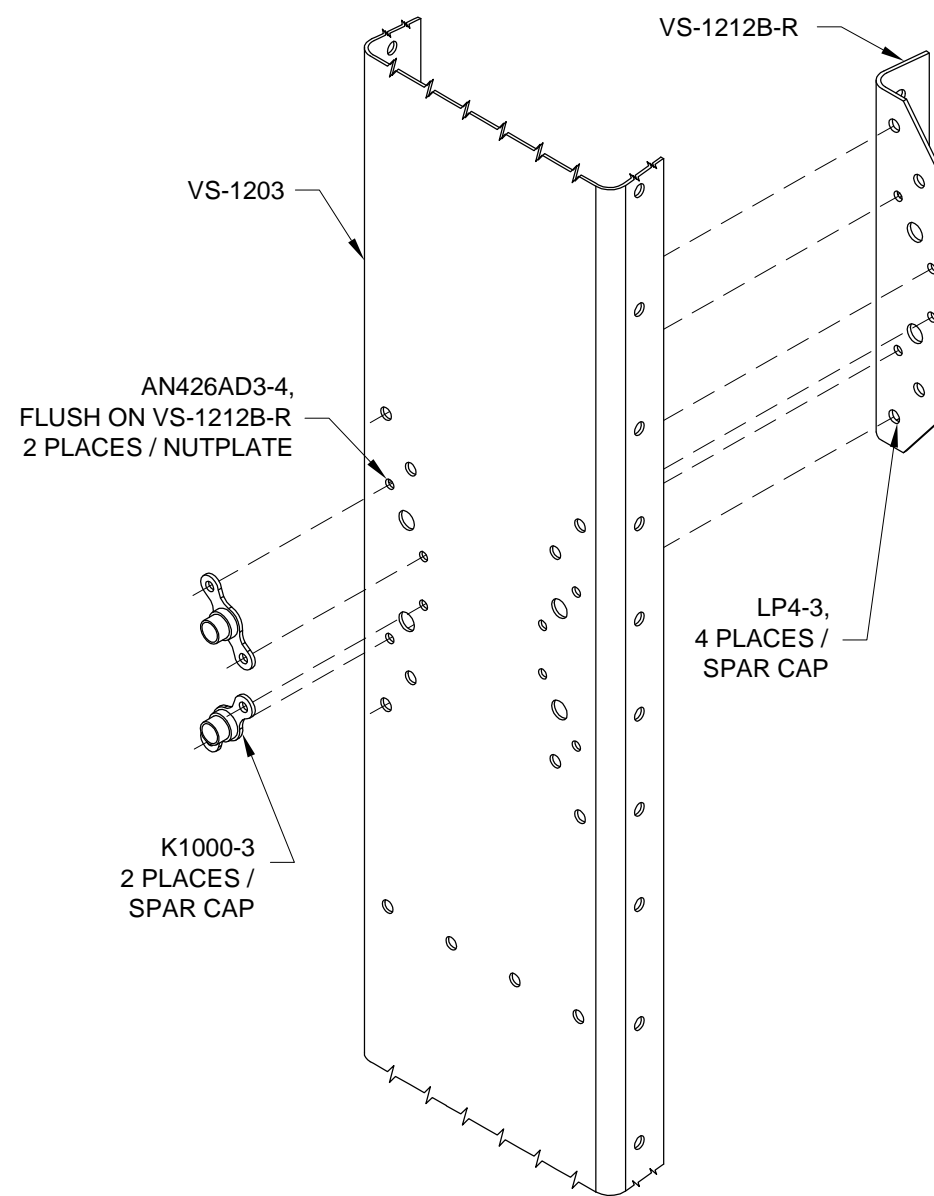

FIGURE 2:
Step 5: Rivet the VS-1212B-R Upper Spar Cap to the VS-1203 Rear Spar as shown in Figure 2. Leave open the spar flange rivets for this step. Install the VS-1212B-L Upper Spar Cap as a mirror of the right. (The rivet wedge tool fabricated at the beginning of this section may be useful here for the rivets closest to the rear spar flange.)
Step 6: Rivet the nutplates to the VS-1203 Rear Spar and VS-1212B-R & -L Upper Spar Caps as shown in Figure 2.